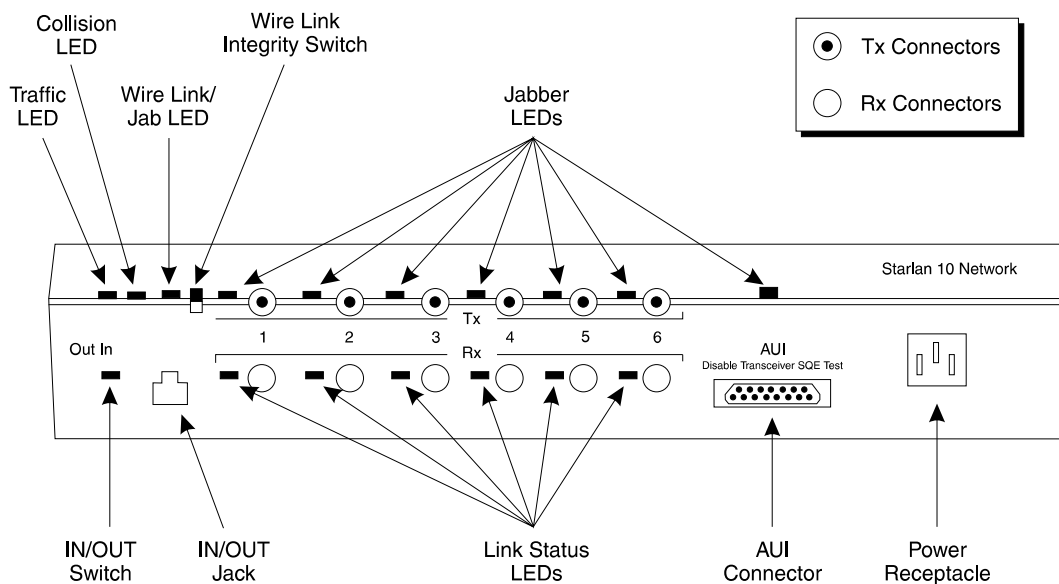

Figure 3-16: StarLAN 10 Network Fiber Hub Unit
To connect the Starlan 10 Network Fiber Hub unit to the network, do the following (see Figure 3-16):
3. Plug one end of the fiber optic cable into the transmit (Tx) and receive (Rx) connectors on the front of the network fiber hub unit (see Figure 3-16).